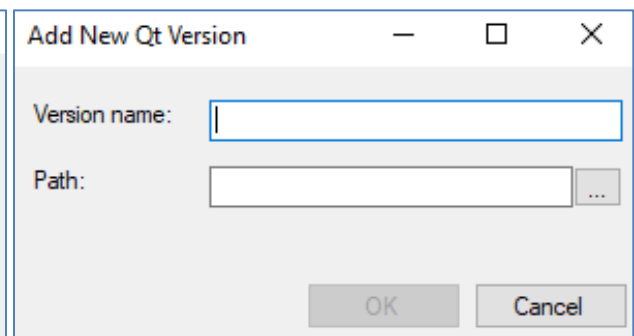

Figure 2: Add New QT Version
3. If the entry does not match, delete the entry and click **Add**. Browse to the path where the new version of QT is installed and click **OK** (Figure 2).